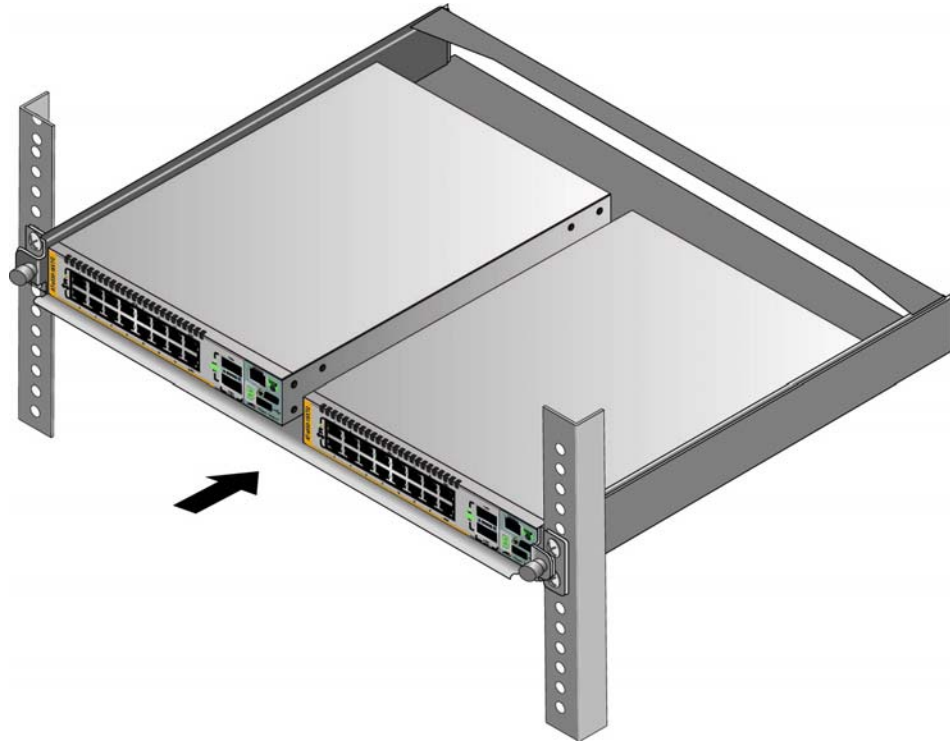

Figure 30. Sliding in the Bracket Tray
10. Slide in the bracket tray. Refer to Figure 30.